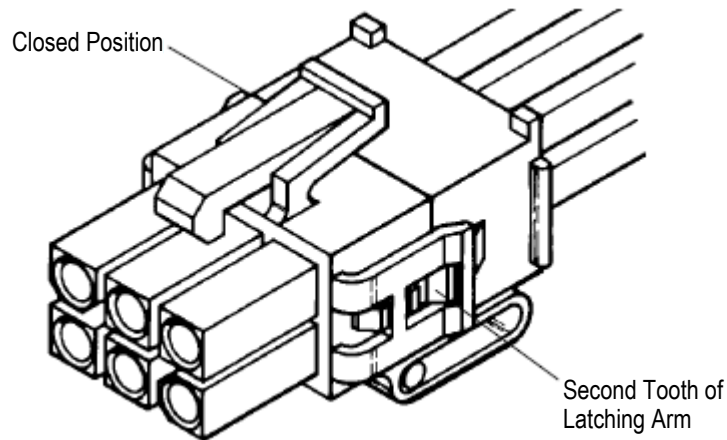

Figure 8
3. After all required contacts have been inserted, the wire end of the connector must be closed. To close the wire end of the connector housing, grasp the wire end and push forward until the second tooth of both latching arms engage as shown in Figure 8.